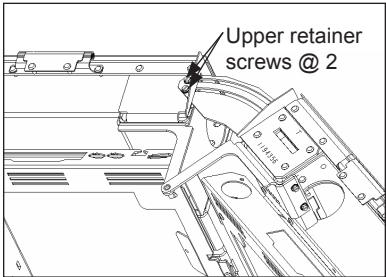
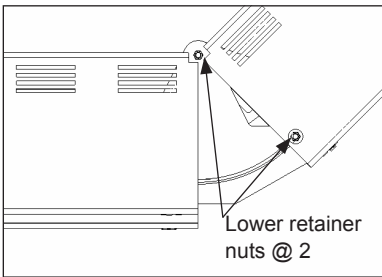

Figure 21: Securing Upper Retainer Hardware
Figure 22: Securing Lower Retainer Hardware
4. Secure the retainer nuts and screws in the upper and lower support brackets into the left vertical of the wing to keep the wing from rotating. The torque required is 20 ft-lbs. Refer to **Figure 21** and **Figure 22**.